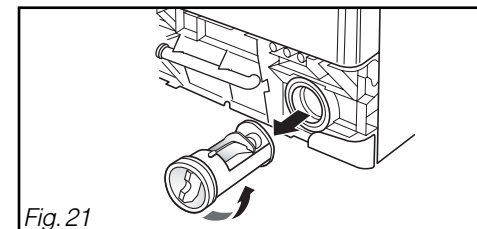

Fig. 21
- Unscrew the cap of the drainage pump filter (Fig. 21).